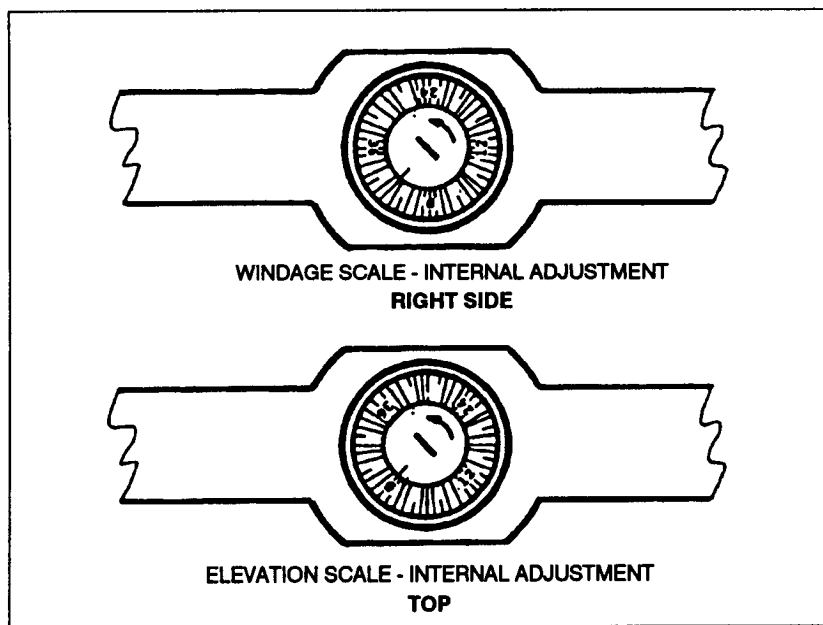

Figure B-10. Elevation and windage scales.
(1) For example, the power ring on the ART I scope can be adjusted until 30 inches of an object or a person's image (beltline to top of head) fits exactly in between the horizontal stadia lines (top stadia line touching top of the head and bottom stadia line on the beltline).
(2) Another example is to adjust the power ring on the ART II scope until 1 meter (about 40 inches) of a person's or an object's image appears equal to one of the posts in the reticle.
(3) When turning the power ring to adjust the target's image to the reticle, the sniper is also turning the ballistic cam. This raises or lowers the scope itself to compensate for elevation. Therefore, once the scope's magnification is properly adjusted in proportion to the target's image, the ballistic cam has at the same time adjusted the scope for the proper elevation needed to engage the target at that range.
(4) The ART II scope has a locking thumbscrew located on the power ring used for connecting and disconnecting the power ring from the ballistic cam. This allows the sniper to adjust the scope on target (auto-ranging mode), and then disengage the locking thumbscrew to increase magnification (manual mode) without affecting the elevation adjustment.
d. **Zeroing.** The ART scope should be zeroed at 300 meters. Ideally, this should be done on a known-distance range with bull's-eye-type targets. When zeroing the ART scope (Figure B-10), the sniper—
(1) Removes the elevation and windage caps from the scope.
(2) Turns the power adjustment ring to the lowest position. On the ART II scope, ensures that the locking thumbscrew is engaged and that the ballistic cam moves when the power ring is turned.
(3) Assumes a good prone-supported position that allows the natural point of aim to be centered on the target.
(4) Fires three rounds, using good marksmanship fundamentals with each shot.
(5) Makes the needed adjustments to the scope after placement of the rounds has been noted. He is sure to remember—